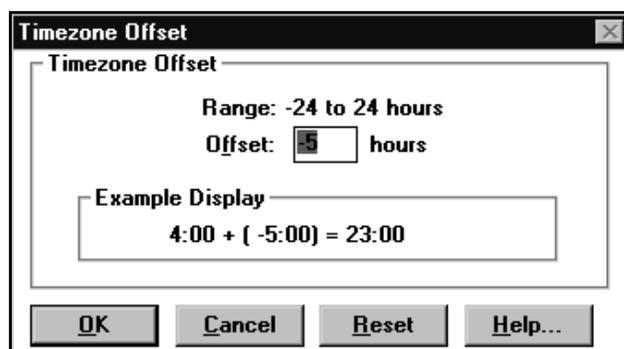

FIGURE 90. Example of Timezone Offset dialog box
1. To make timezone adjustments, select Timezone Offset in the configuration window. (See Figure 90.)